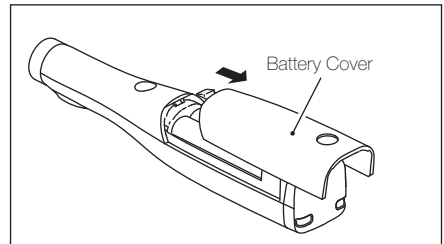

Fig. 13
4. Remove the battery cover by sliding it toward the charging terminal. (Fig. 13)